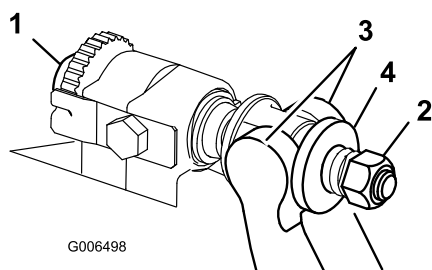

Figure 29
- Turn bedbar adjuster screws, counterclockwise, to back bedknife away from reel (Figure 29).
- Back out the spring tension nut, until the washer is no longer tensioned against the bedbar (Figure 29).